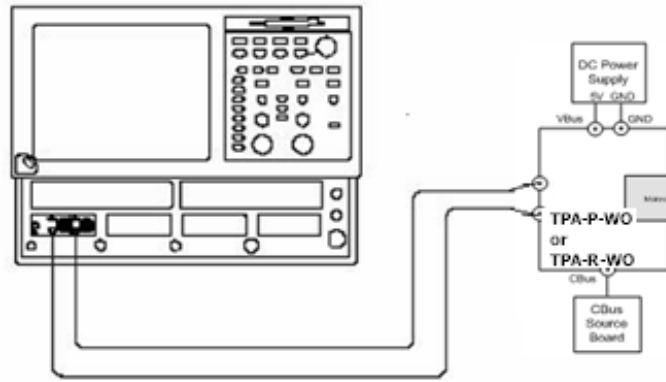

Figure 2: Initial equipment connections for the differential impedance measurement using the TF-MHL-TPA-P-WOSI
1. Use DC block and 50Ohm SMA cable to connect the CH1 connector on the sampling module and the MHL + connector on the test fixture (see Figure 2).
2. Use DC block and 50 Ohm SMA cable to connect the CH2 connector on the sampling module and the MHL- connector on the test fixture (see Figure 2).